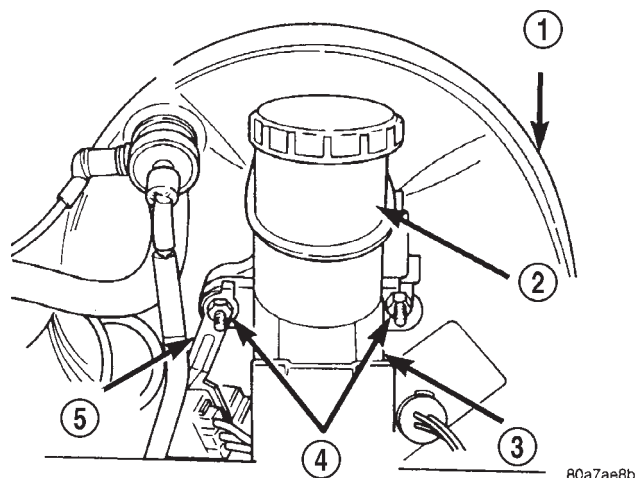
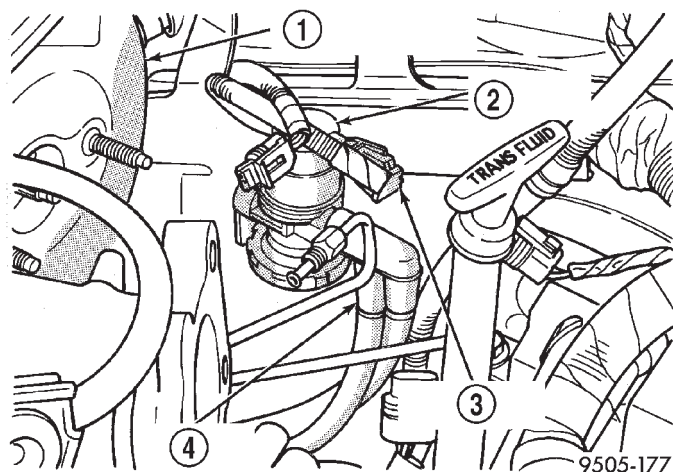
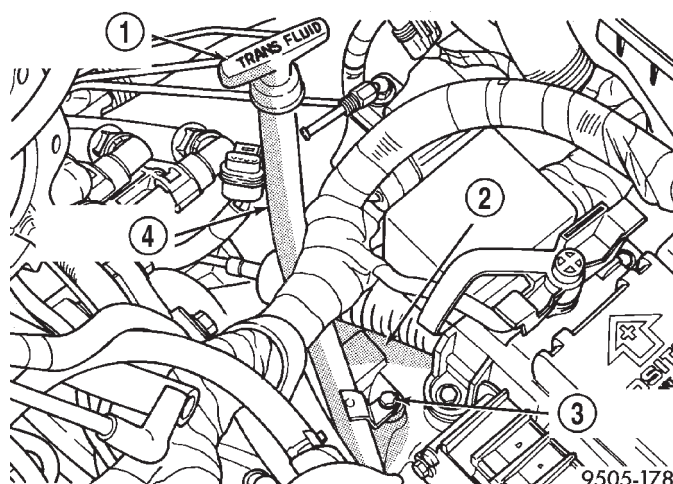
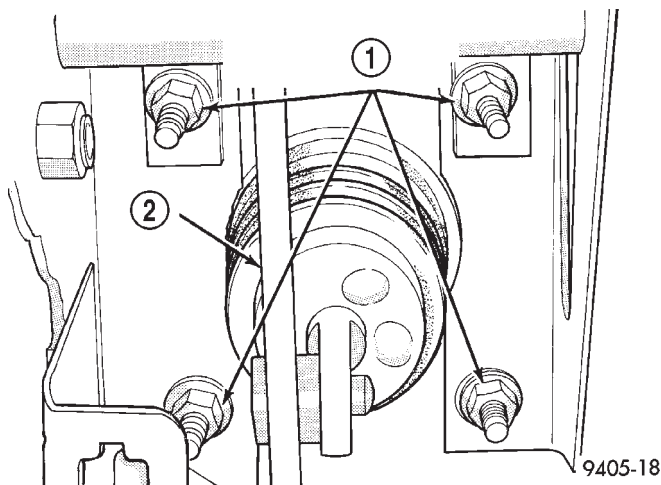

Fig. 71 Master Cylinder Mounting To Vacuum Booster
Fig. 72 Purge Control Solenoid
Fig. 73 Transaxle Dipstick Tube
Fig. 75 Vacuum Booster Mounting
(10) Remove the 2 nuts (Fig. 71) attaching the master cylinder assembly to the power brake vacuum booster.
(11) Remove the routing clip and chassis brake tubes (Fig. 71) (as an assembly) from the mounting stud for the master cylinder.
(12) Remove the master cylinder from the vacuum booster.
(13) Remove the vacuum harness connector and electrical connector from the purge solenoid (Fig. 72). Remove bracket and purge solenoid as an assembly from the vehicle.
(14) Remove dipstick tube attaching bolt (Fig. 73). Then remove the dipstick tube and dipstick (Fig. 73) as an assembly from the transaxle.
(17) Remove the 4 nuts attaching the vacuum booster to the dash panel. Nuts are accessible from under dash panel in area of the steering column and pedal bracket assembly (Fig. 75).
(1) Position power brake booster onto dash panel.
(2) Install and torque the 4 power brake vacuum booster mounting nuts (Fig. 75) to 37 N·m (27 ft. lbs.) torque.
(3) Using lubriplate, or an equivalent, coat the surfaces of the brake pedal pin that contact the power brake vacuum booster input rod.
(4) Connect power brake vacuum booster input rod to brake pedal pin and install a **NEW** retaining clip. **Use only a new retainer clip DO NOT USE the old clip.**
(5) Install the dipstick tube in transaxle (Fig. 73). Install dipstick tube attaching bolt and securely tighten (Fig. 73).
(6) Install the vacuum hoses on the check valve in the power brake vacuum booster.
(7) Position purge control solenoid (Fig. 72) on left front strut tower and install and securely tighten attaching bolt. Then correctly route and install the vacuum harness connector and electrical connector (Fig. 72) on the purge control solenoid.
(8) Position master cylinder on vacuum booster, aligning push rod on vacuum booster with the piston of the master cylinder.
(9) Install the routing clip and chassis brake tubes on the inboard mounting stud for the master cylinder.
(10) Install the 2 master cylinder to power brake unit mounting nuts (Fig. 71). Tighten the 2 mounting nuts to a torque of 28 N·m (250 in. lbs.).